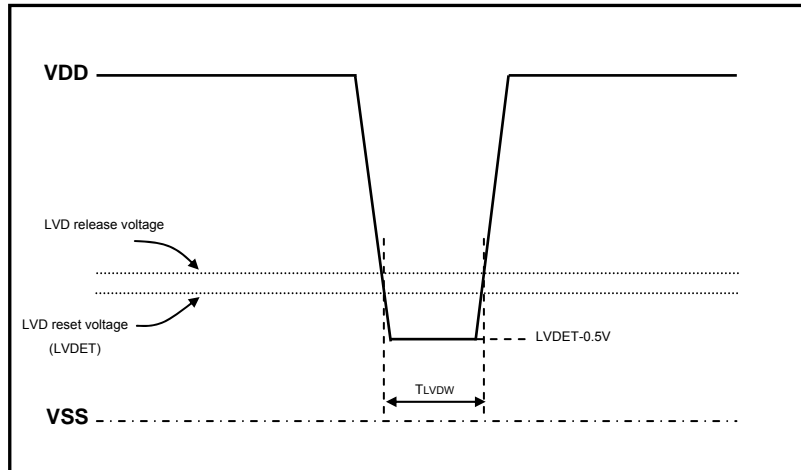
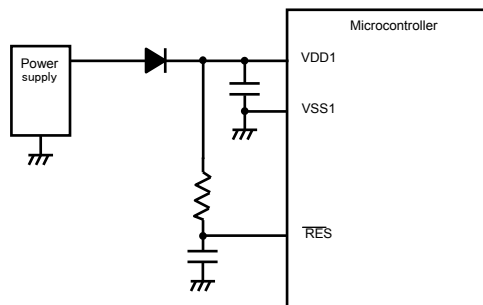

Figure 4.6.4 Example of Momentary Power Loss or Voltage Fluctuation Waveform
Figure 4.6.5 Example of Momentary Power Loss or Voltage Fluctuation Countermeasures
- The response time measured from the time the internal LVD detects a power voltage drop at the option-selected level until it generates a reset signal is defined as the minimum low-voltage detection width TLVDW as shown in Figure 4.6.4 (Refer to the latest “SANYO Semiconductors Data Sheet” for details.). If voltage fluctuations or momentary power loss shorter than this minimum low-voltage detection width is anticipated, be sure to take the preventive measures shown in Figure 4.6.5 or other necessary measures.